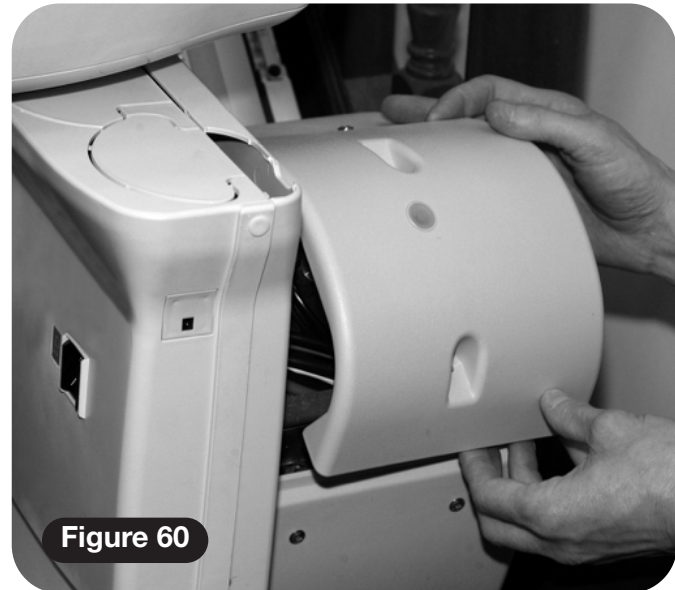

Figure 60
- 1 Rotate the seat through 90° to gain access to the main control board (**Figure 60**).